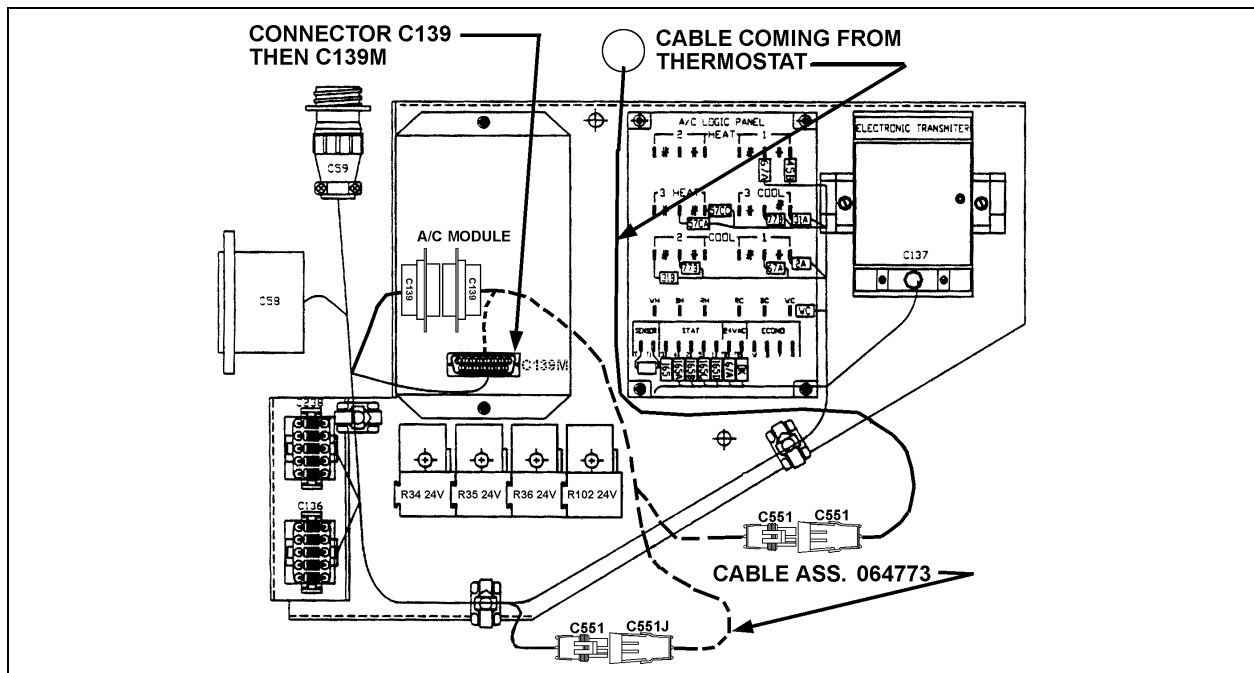

FIGURE 10 : REAR ELECTRICAL COMPARTMENT A/C JUNCTION PANEL
2. From inside rear electrical compartment, disconnect C139 connector from A/C module (refer to fig. 10). Connect cable assembly (Prévost #064773) **C139M** connector with A/C module and **C139** connector with connector just disconnected from module, use cable-ties for connectors attachment to prevent them from disconnecting because of vibrations. Refer to wiring diagram D060882 P. 13.1 Rev. 08.
3. Disconnect rear junction panel C551 connector (refer to fig. 10), connect cable assembly **C551J** connector with male part of C551 connector and connect cable assembly **C551** connector with female part of C551 connector and cable coming from thermostat. Secure cable assembly using cable ties.